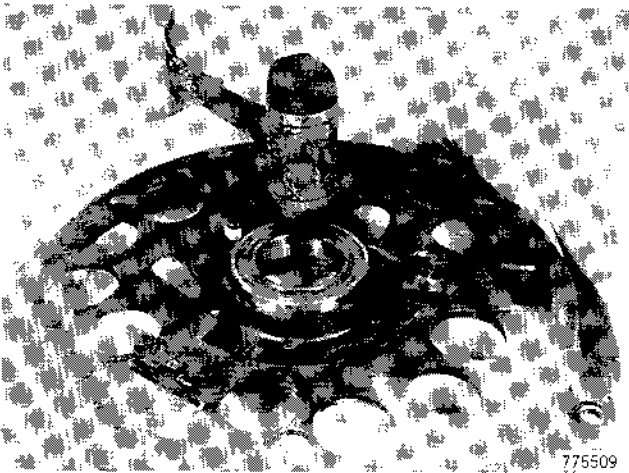

Figure 92
3. Install the outer cover bearing, Figure 92.